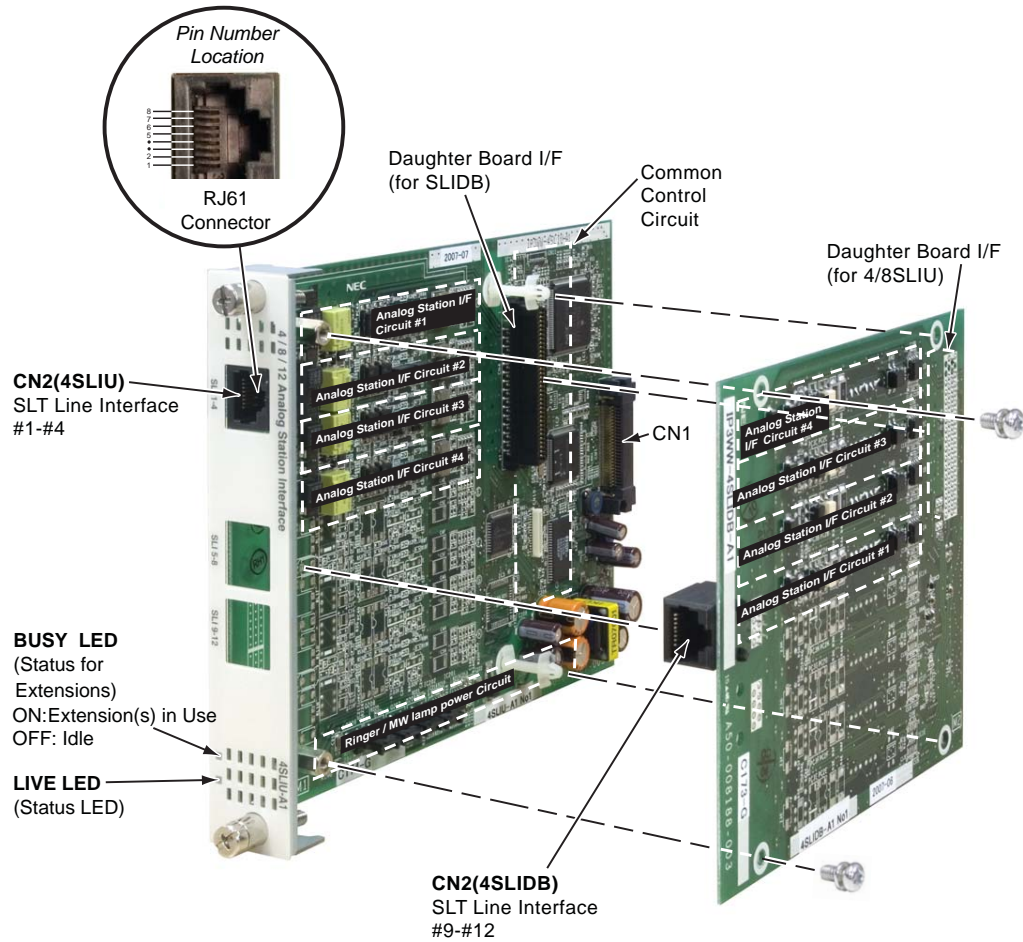

Figure 2-21: 4SLIU BLADE - COMPONENT SIDE VIEW
2.5.2 Analog Station (4/8SLIU) Blade (Figure 2-21) - P/N 0911040 and 0911044